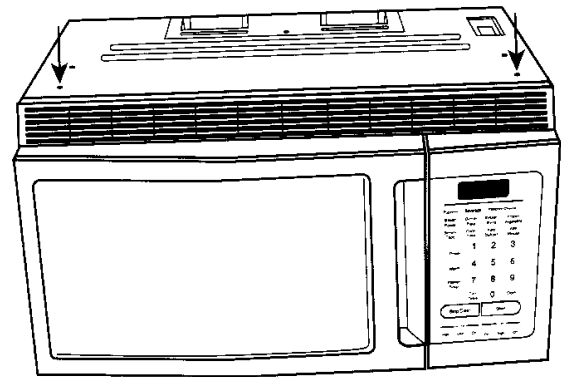

FIGURE 3
2. Remove the top grill by taking out the 2 screws that hold it in place. (See Figure 3.)